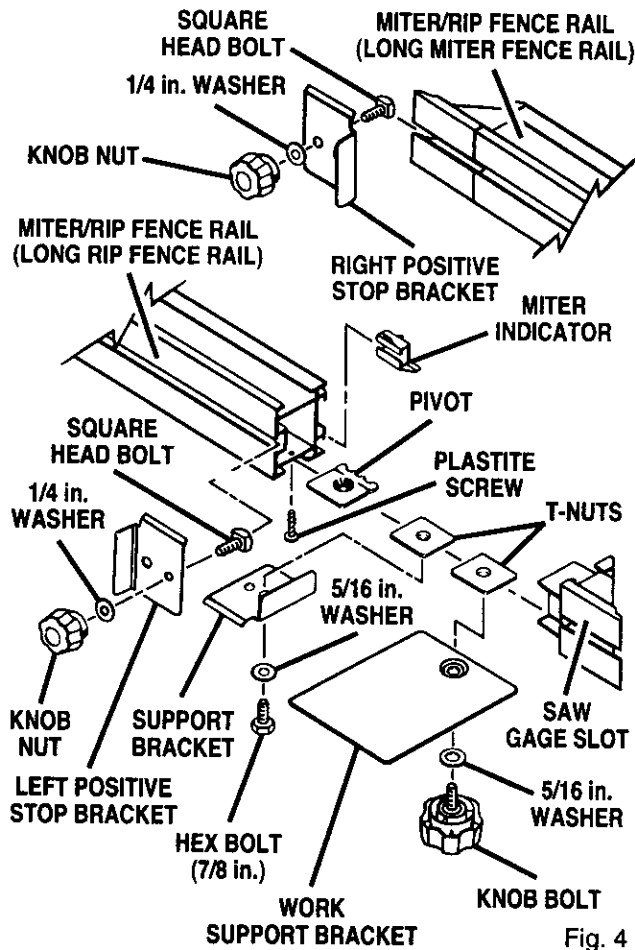

Fig. 4
See Figure 4.
- Place a saw gage into each end of the long miter fence rail. Correct orientation of the saw gage to the rail is important. Align the slot in the saw gage with the slot in the rail. See Figure 4.
See Figures 4 and 5.
- Insert the square head bolt in the slot in the rip fence. See Figures 4 and 5.
- Attach work support bracket to bottom of long miter fence as shown in figures 4 and 5.